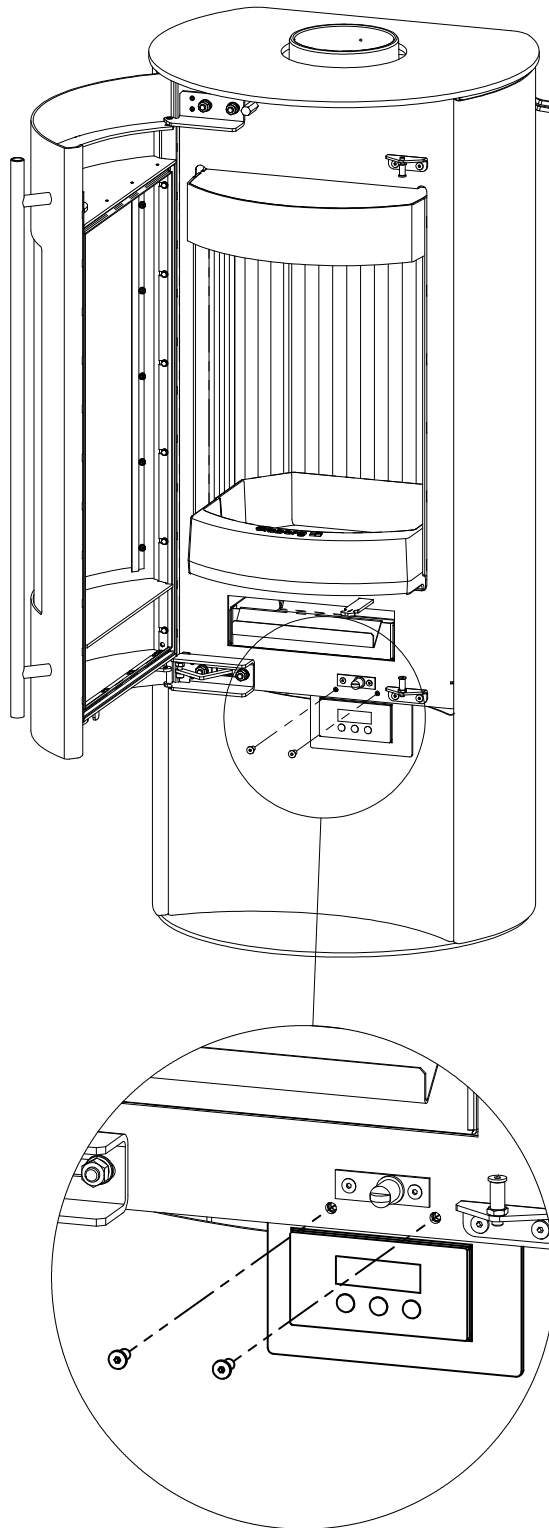

Fig.4
- Tighten the electronics to the unit using the hex socket head screws included (Fig.4).